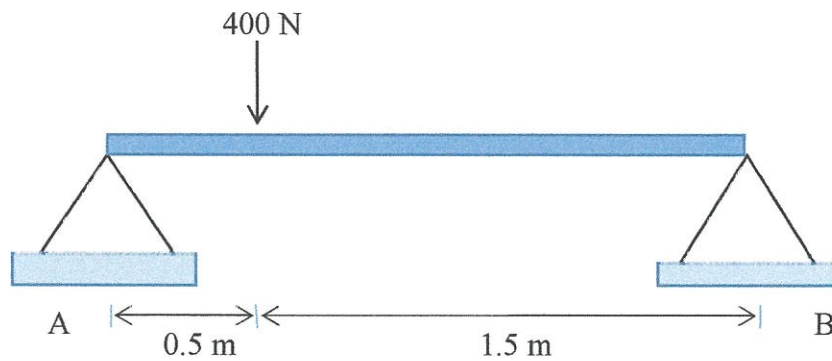

Figure Q2
- Q2** A simply-supported beam AB is loaded as shown in **Figure Q2**. A beam is made of steel which has Young's modulus of 200 GPa and beam's cross section moment of inertia is 4×10^8 m⁴.